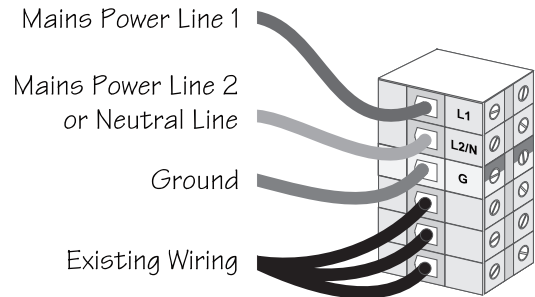

Fig 4-5 Input Hardwiring Configuration
4. Connect input wires to the input terminal block connections labelled L1, L2/N and Ground as shown in figure 4-5. Make sure there are no loose strands and that the terminal connection screws are sufficiently tightened. Connections are the same for 208V or 240V incoming voltages.